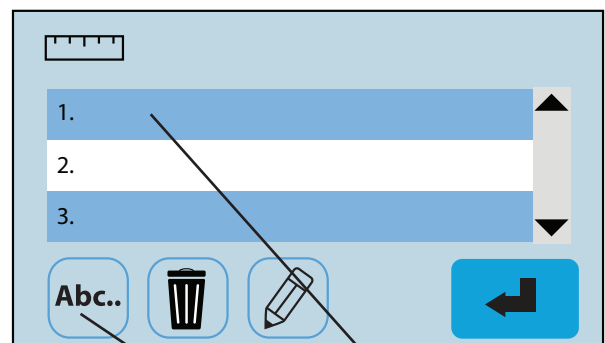

Fig. 27
5. Select the job number the fold will be saved as (Fig. 27). Press the letter icon  to bring up the keypad to name the custom fold.